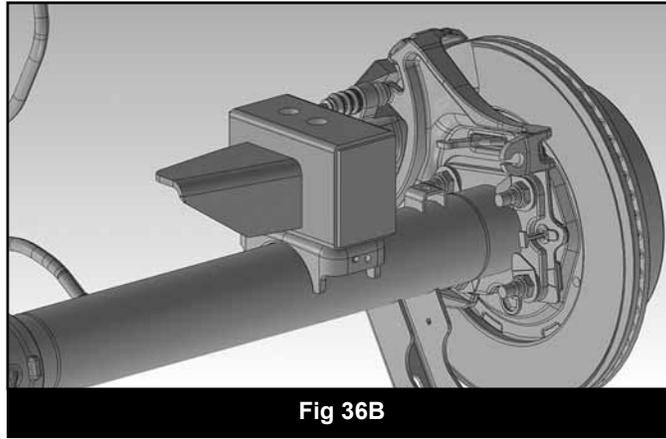

Fig 36B
17. Install rear block (02429 - DRV side, 02430 - Pass side). The block is designed to offset the axle forward slightly. The bump stop wing will be centered under the bump stop on the frame with the vertical gusset facing towards the front of the vehicle. Align the center pins and raise axle. Fig 36b